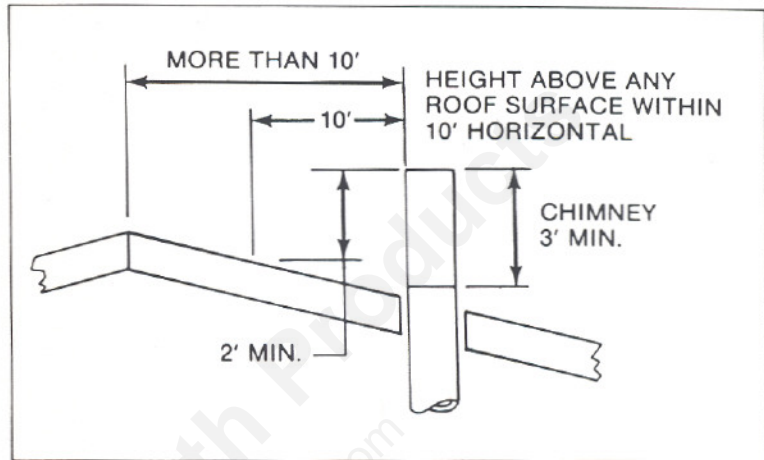

Figure 10
- If the horizontal distance from the side of the chimney to the peak of the roof is more than 10 feet, a chimney height reference point is established on the surface of the roof a distance of 10 feet from the side of the chimney in a horizontal plane. The top of the chimney must be at least 2 feet above this reference point, but never less than 3 feet in height above the highest point where it passes through the roof. See Figure 10.